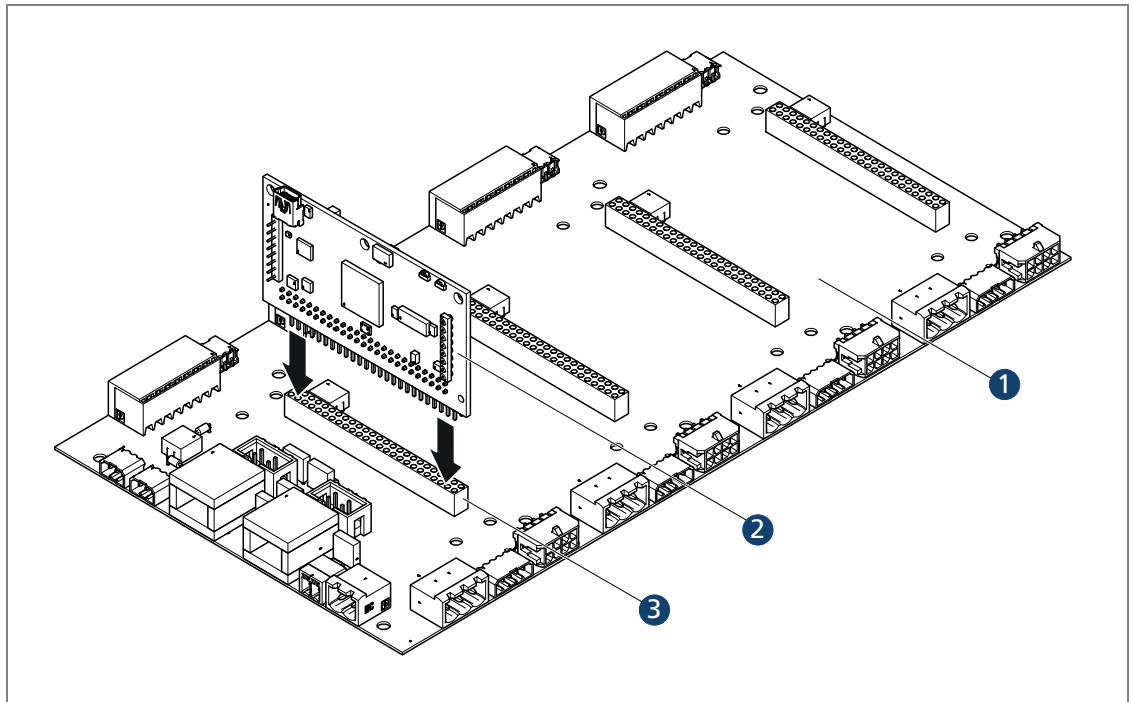

Fig. 7: Installation of a Motion Controller circuit board
- ▶ Orient the Motion Controller circuit board as shown in Fig. 7, p. 18.
- ▶ Connect the Motion Controller circuit board (2) to the motherboard (1) via the connector (3).